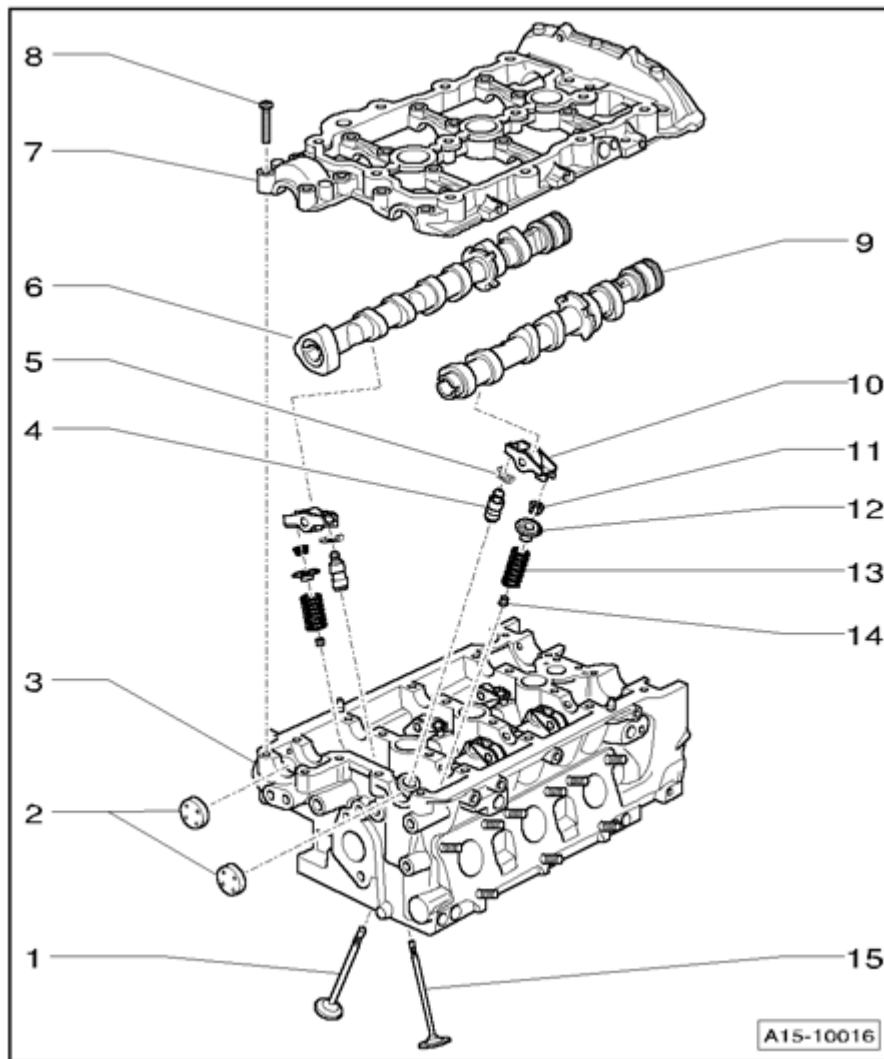

Fig. 411: Valvetrain, Component Overview
- Left cylinder head is shown in **Fig. 411**.